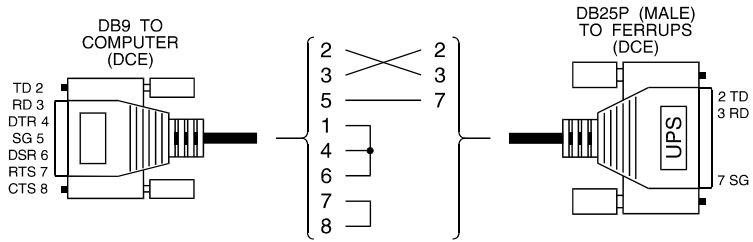
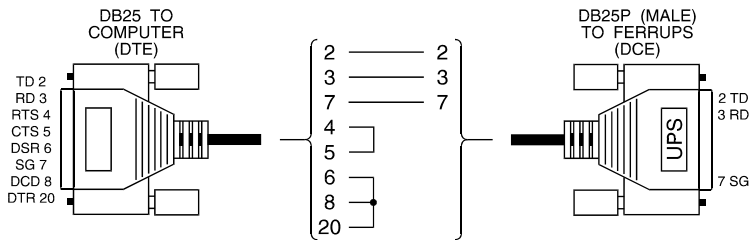

Figure 11. DB-9 to UPS Pinout
Figure 12. DB-25 to UPS Pinout
1. To connect the FERRUPS Rack Mount UPS DB-25S (female) RS-232 port to your terminal or computer, you need a cable designed specifically for this purpose (see Figure 11 and Figure 12). Eaton offers cables for computers or terminals using 25-pin or 9-pin serial ports; call your service representative to order one of these cables. If you would like to build your own cable, follow these requirements:
- **Do not use a standard 25-conductor straight-through cable;** only include straight-through connections for the pins shown in Figure 11 and Figure 12.